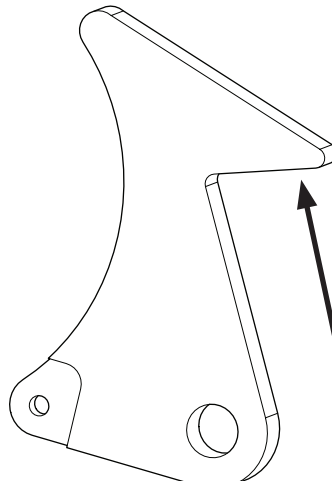

Figure 4
- If the notch on the arm hook latch component is absent (Figure 4), then continue the procedure to **install the updated arm hook latch with notch** and order the updated arm hook latch component (PN 1675151) and the hardware.